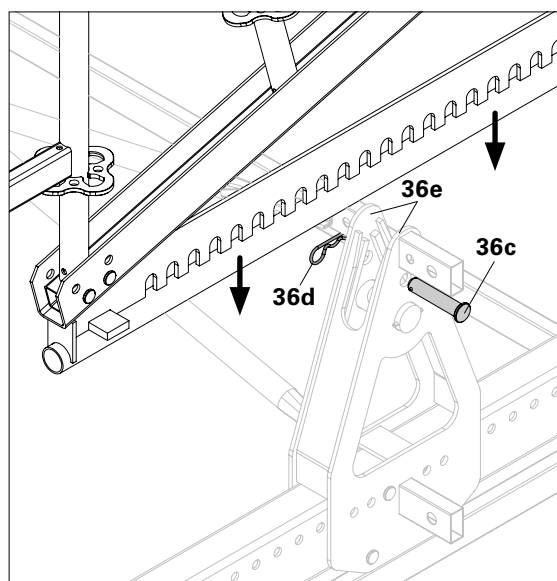

Fig. A11.03b
(Fig. A11.03b)
2. Secure Bolts (36c) and Cotter Pins (36d). (Fig. A11.03b)